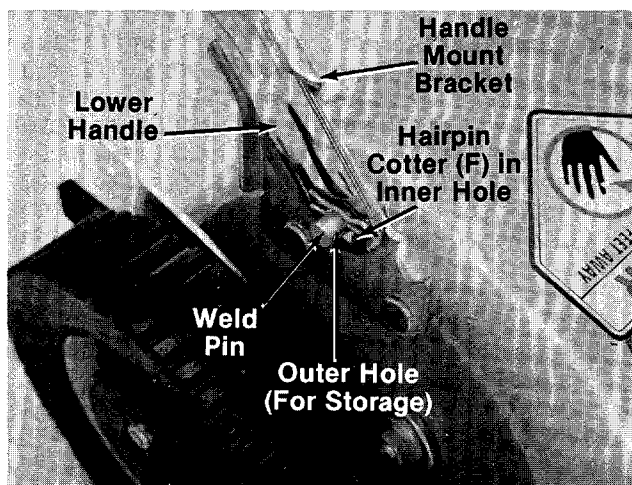

FIGURE 2.
- A (2) Curved Head Carriage Bolts
- B (2) Hand Knobs
- C (2) Cable Ties
- D (1) Hex Bolt $\frac{1}{4}$ -20 x 1.50" Long
- E (1) Hex Lock Nut $\frac{1}{4}$ -20 Thread
- F (2) Hairpin Cotters
3. Fasten lower handle in position over weld pins in handle mount brackets on deck. Secure with hairpin cotters (F) in inner hole on weld pin. See figure 2.